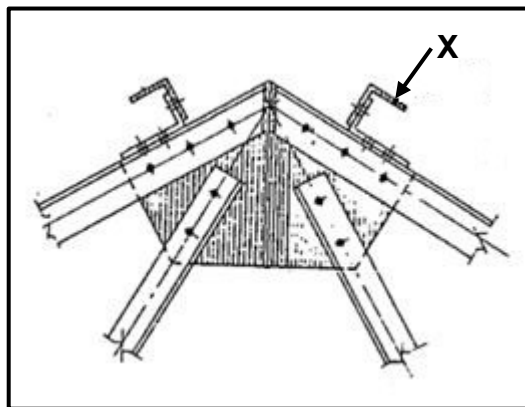

FIGURE 4.4
4.4 FIGURE 4.4 below shows a section of a roof truss. Identify part **X**.